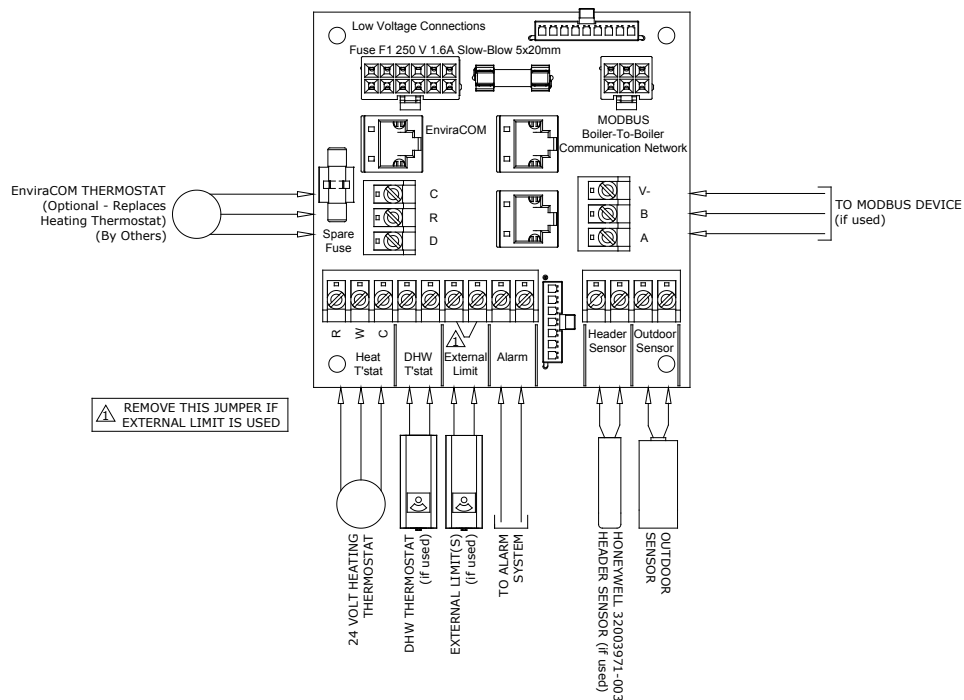

Figure 10.3: Low Voltage PCB Terminal Connections
This boiler is equipped with a listed high water temperature limit function. This limit provides boiler shutdown in the event the boiler water temperature exceeds the set point of the limit control. Certain Local Codes require an additional water temperature limit. If necessary, install an additional water temperature limit (P/N 106056-01) or equivalent Honeywell L4006 Aquastat. Wire as indicated in Figure 10.3.
2. Low Voltage Field Connections – Low voltage field connections on the low voltage PCB are shown in Figure 10.3 and are listed from top to bottom:
- DHW T’Stat - 24VAC domestic hot water thermostat (1)
- DHW T’Stat - 24VAC domestic hot water thermostat (2)
- External Limit - Field supplied low voltage safety limit contacts (1)
- External Limit - Field supplied low voltage safety limit contacts (2)
- Alarm Contact (1)
- Alarm Contact (2)
- Outdoor Sensor - Tasseron TSA00AA Outdoor Temperature Sensor (1)